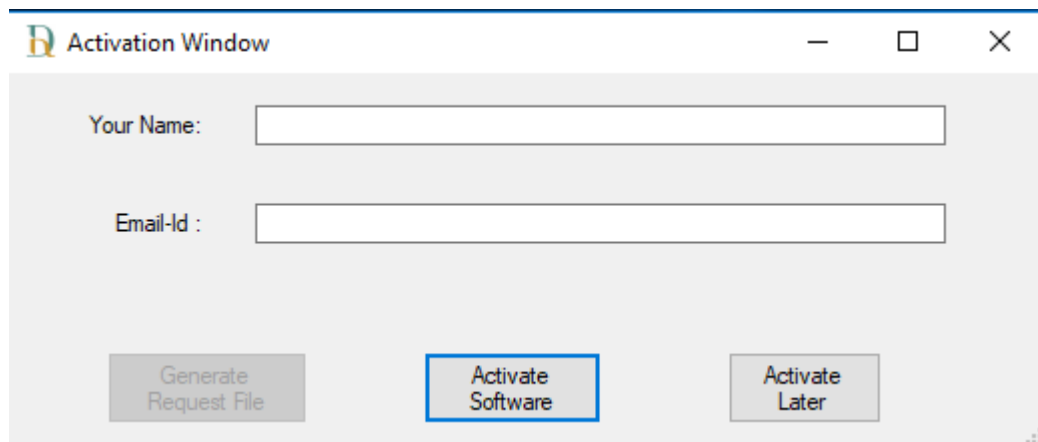

Figure 5 Software Activation Window opened at first time.
1. If user is in same window as shown in Fig. 5 then fill details. Else click on help button then again click on “Product Key” button to open same window, after that fill details and click on “Generate Request File”. On clicking this button will open File Explorer, save the request file(.req) and mail that request file at provided email address(mail id is given in software information window).